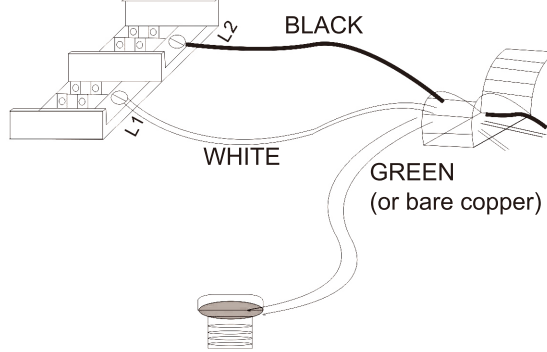

Figure 7
2. Attach the cable connectors to the unit (See Figure 7) and slide the 7 -gauge wire through the cable connector.
**NOTE:** All wiring must be carried out by a Certified Electrician and must be in accordance to national and local electrical codes. For certain applications, conduit may be required, See Figure 7. Check local electrical codes. If you run the wiring in conduit and wish to be able to turn the heater be sure to purchase enough flexible conduit to allow the heater to be turned.
3. Connect the wire to the power block located in the base of the heater - See Figure 7.